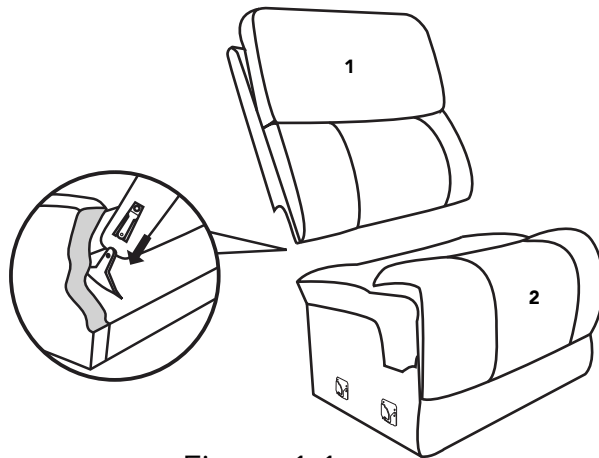

Figure 1.1
- 1 Attach the Back (1) to the Seat (2). Ensure the latches fit well. (See Figure 1.1)**